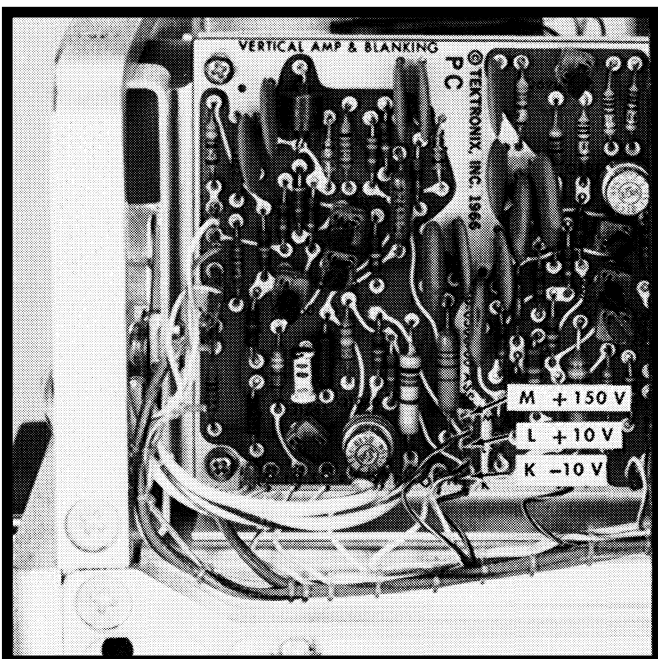

Fig. 6-5. Location of the low voltage check points.
- b. Turn the POWER switch to ON position, then connect a calibrated voltmeter between pin K on the Vertical Amplifier and Blanking circuit board, and chassis ground (see Fig. 6-5).
- b. Connect the voltmeter between pin L of the Vertical Amplifier and Blanking circuit board and chassis ground (see Fig. 6-5). Check the $+10$ volt supply. Must read between $+9.7$ and $+10.3$ volts ($10\text{ V} \pm 3\%$).
b. Connect the VOM to the voltage check points (Fig. 6-5), and check the voltage regulation of each regulated supply as the input line voltage is varied through the input line voltage range as shown in Table 6-1.